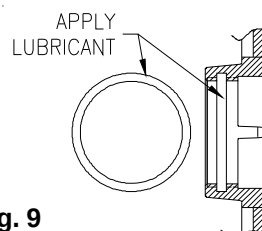

Fig. 9
9. Using the o-ring seal and lubricant bag, ensure the o-ring and coupling are well lubricated. Insert the o-ring, ensuring it does not twist. See Fig. 9